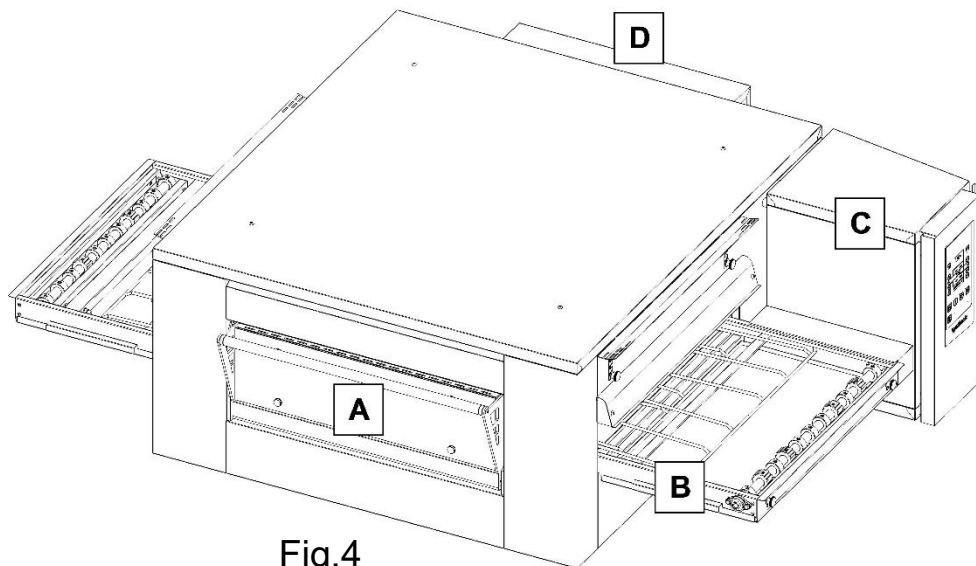

Fig.4
In the event that the oven is equipped with a door (Fig.4 zone A), check that it opens and closes properly.
Check the rack's tension (Fig.4 zone B), wear and alignment and, if necessary, adjust it by using the rack tensioners located at the oven entrance.
Dust, flour and dirt in general can accumulate inside the control panel (Fig.4 zone C), where the electrical components are located. In this regard it is
- In the area of the fan motor (Fig.4 zone D), check and clean the motors;